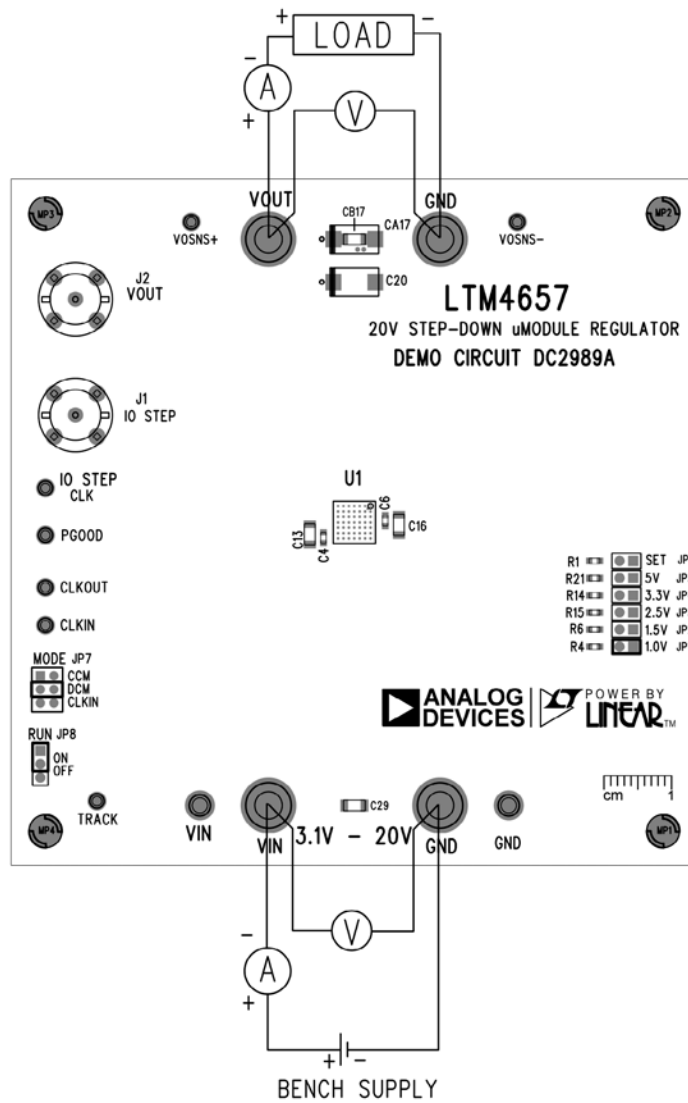

Figure 1. Test Setup of DC2989A
Demonstration circuit 2989A is an easy way to evaluate the performance of the LTM4657. Please refer to Figure 1 for test setup connections and follow the procedure below.
3. With power off, connect the load, input voltage supply and meters as shown in Figure 1.